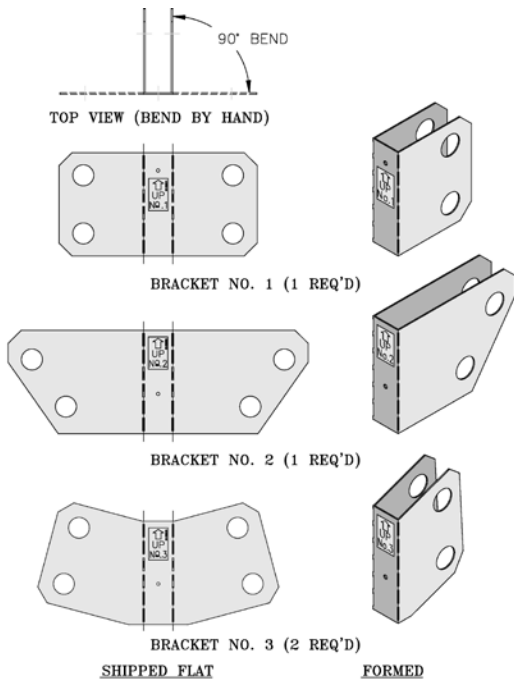

Figure 10: Jacket Intermediate Panel Mounting Brackets
- i. LOCATE JACKET INTERMEDIATE PANEL MOUNTING BRACKETS NO. 1, NO. 2 AND NO. 3 IN JACKET CARTON. Brackets are shipped flat and must be formed by hand, bend as shown in Figure 10.
- i. LOCATE JACKET INTERMEDIATE PANEL MOUNTING BRACKETS NO. 1, NO. 2, AND NO. 3 IN JACKET CARTON. Brackets are shipped flat and must be formed by hand, bend as shown in Figure 10.
Brackets are shipped flat and must be formed by hand, bend as shown in Figure 10.